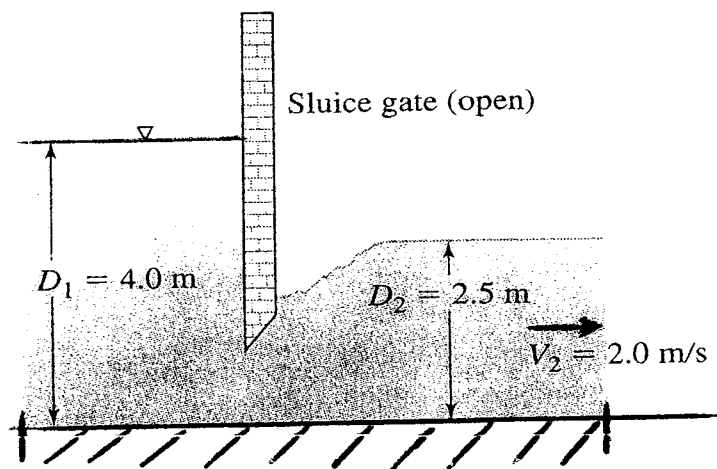

Figure 1
1. (a) Consider the sluice gate shown in Figure 1. The gate has a width of 8 m.